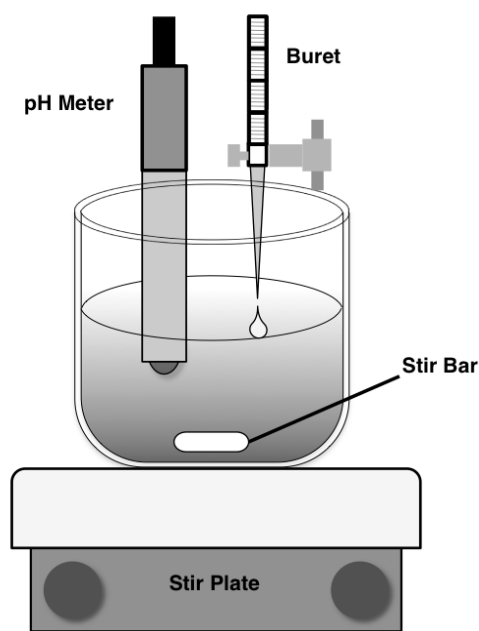

Figure 1: Potentiometry Setup.
3. For the titrations in today's experiment, you will use beakers (instead of an Erlenmeyer flask, see Figure 1), so that you can fit the buret tip and the pH electrode into the titration solution. The beaker (250 mL) will sit on the center of the stir plate with a stir bar inside it. Clamp the buret over the beaker. Use the electrode holder to carefully position the electrode in the beaker so that it does not interfere with the titration process and the stir bar does not hit it.